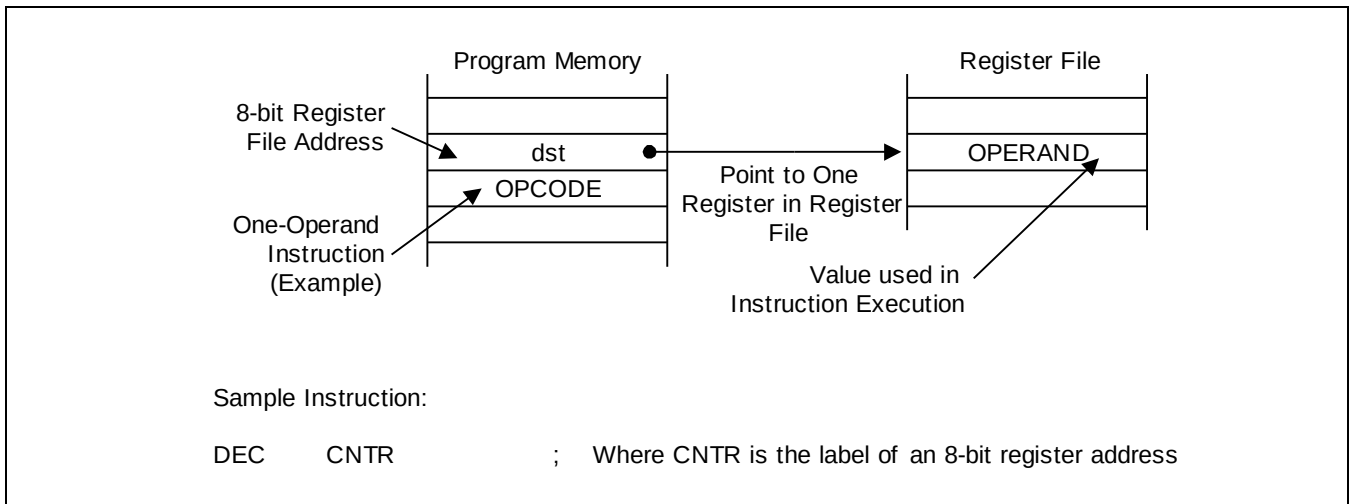

Figure 3-1 Register Addressing
- Register (R)
- Indirect Register (IR)
- Indexed (X)
- Direct Address (DA)
- Indirect Address (IA)
- Relative Address (RA)
- Immediate (IM)
3.2 Register Addressing Mode (R)
In Register addressing mode (R), the operand value is the content of a specified register or register pair (see Figure 3-1).